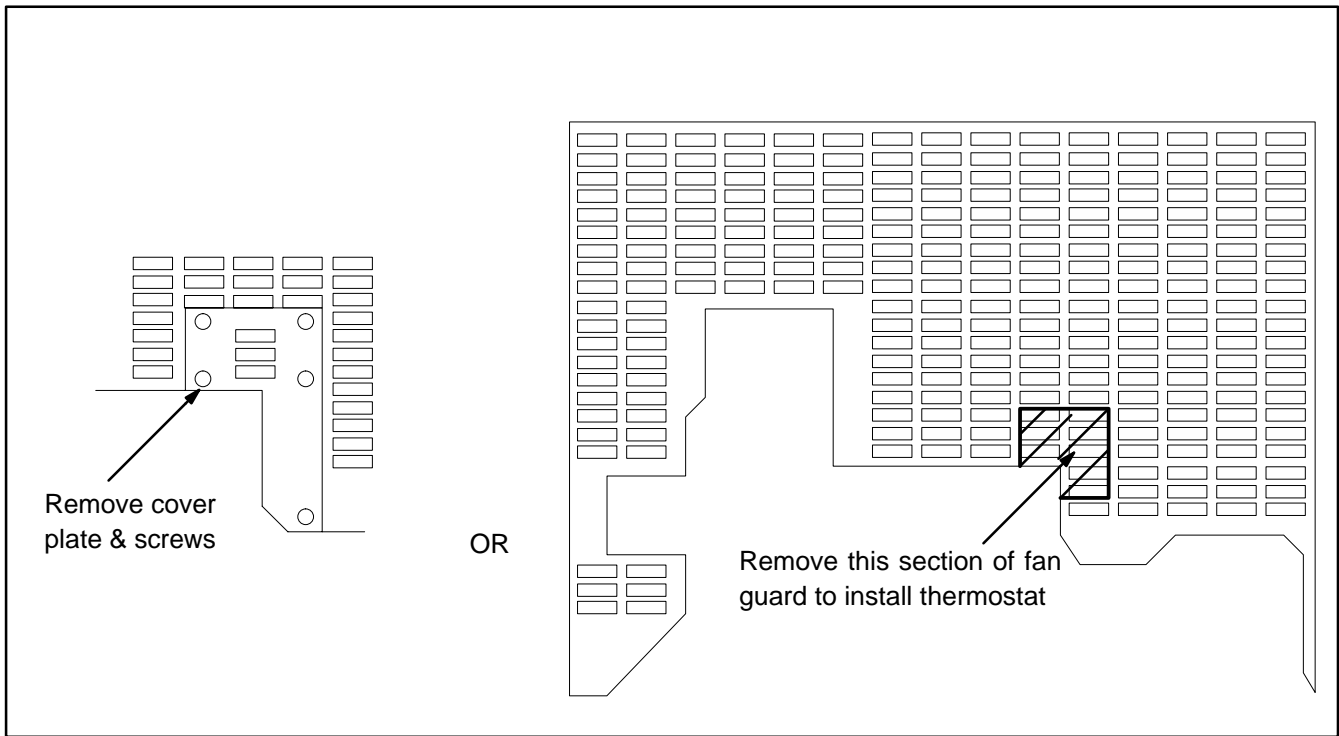

Figure 4. Top Fan Guard.
15. Remove cover plate 276693 and screws X-794-1 (qty. 5) and discard them. If the top fan guard does not have the cover plate then it must be trimmed to accommodate the thermostat's new location. See Figure 4.